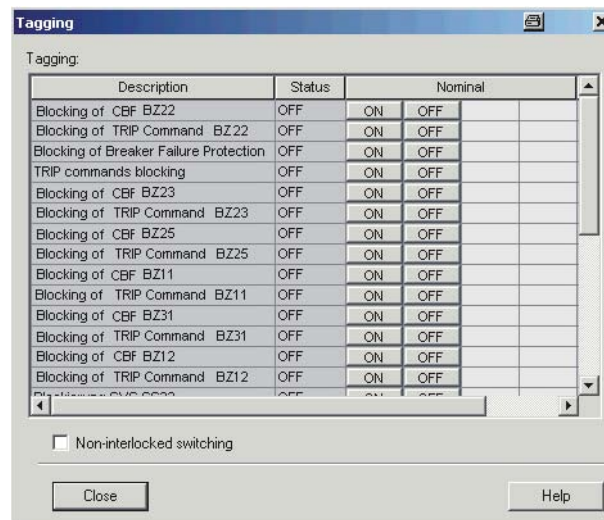

Figure 6-17 Tagging window in DIGSI
- ❑ Double-click **Tagging** in the function selection. The Tagging window opens (see Figure 6-17, page 229).